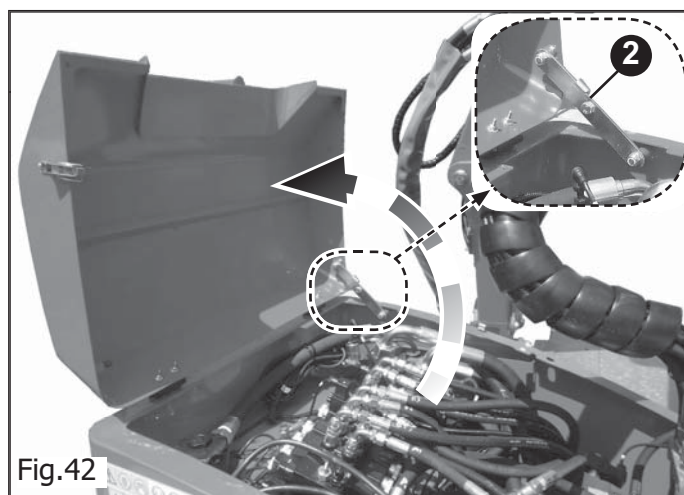

Fig.42
- Lift the protection guard, making sure that the safety lever (2 Fig.42) is in the correct position in order to prevent accidental closure of the guard.